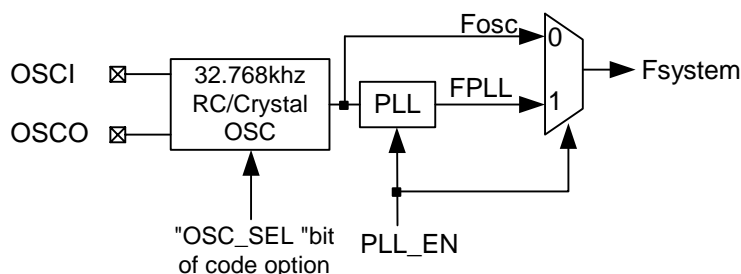

Fig. 10 Oscillator and PLL Function Block
- The TCC/WDT circuit diagram is shown in Fig. 10 below.